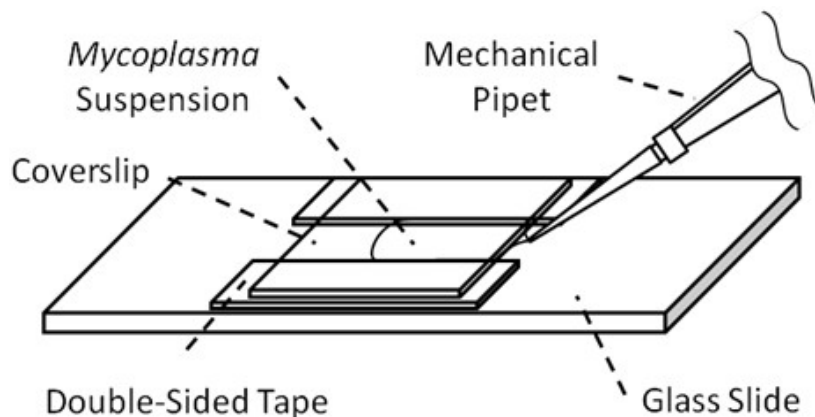

Figure 1. Tunnel chamber
2. Collect the cells in mid log phase at 0.03-0.08 of OD₆₀₀, by centrifugation at 13,000 x g for 4 min at room temperature (RT) and suspend them in the Aluotto medium to be OD₆₀₀ = 1.0.
4. Prepare a tunnel chamber (5 mm interior width, 18 mm length, 60 μm wall thickness) composed of a coverslip, a glass slide, and double-sided tapes (see Figure 1).